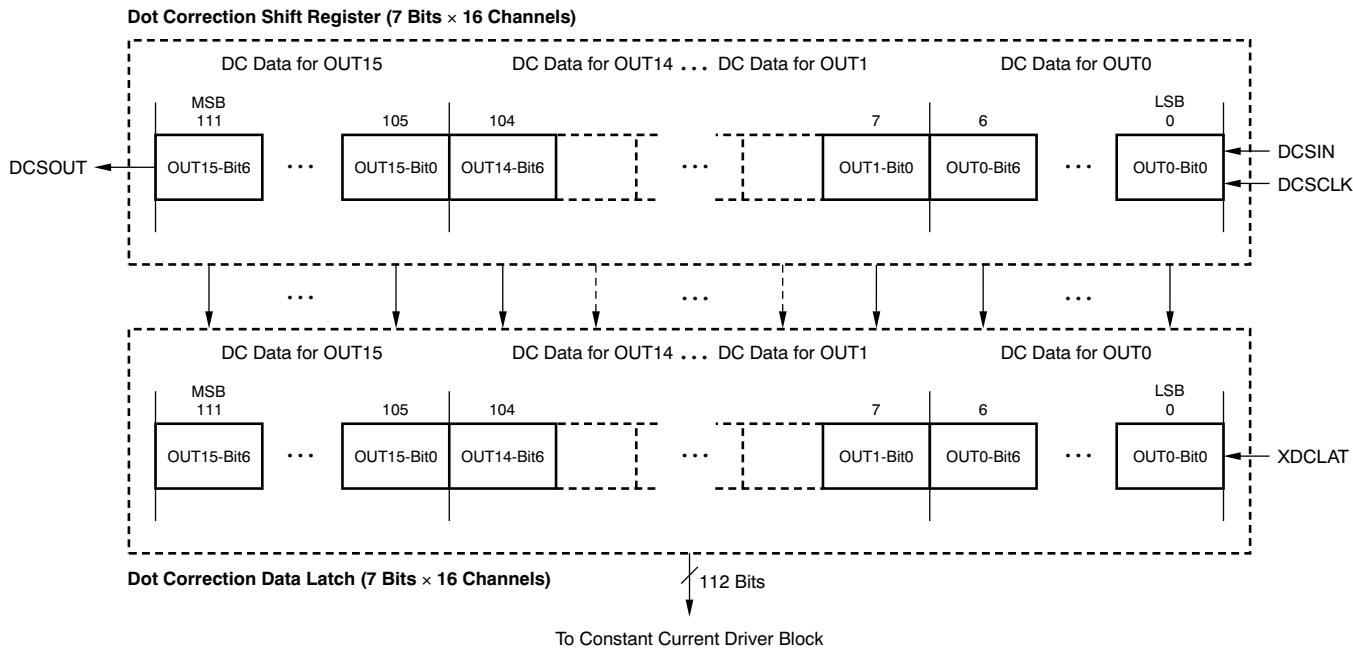

Figure 23. Dot Correction Shift Register and Latch Configuration
The Dot Correction (DC) Shift Registers and latches are each 112 bits in length and are used to individually adjust the constant current values for each constant current driver. Each channel can be adjusted from 0% to 100% of the maximum LED current with 7-bit resolution. Table 2 describes the percentage of the maximum current for each dot correction data. See Figure 23 for the Dot Correction Shift Register and data latch configuration. Figure 10 illustrates the timing chart for writing data into the DC Shift Registers and latches. Each channel LED current is dot-corrected by the percentage corresponding to the data in its DC data latch. DC data present on the DCSIN pin are clocked into the DC Shift Register with each rising edge of the DCSCLK pin. Data are shifted in MSB first. The data are latched from the shift register into the DC data latch with a rising edge on the XDCLAT pin.